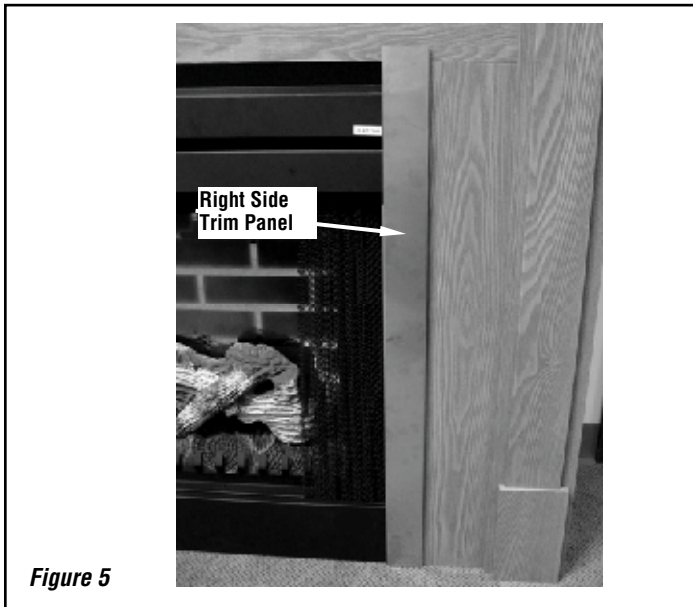

Figure 5
- **Brass and Stainless Trim Kits** – Place side trim over channels, then press firmly so double sided tape adheres panels to channels (see **Figure 5**).
- **Black Trim Kits** – Place side trim panels over magnets on each -side of the fireplace face as shown in **Figure 5**.